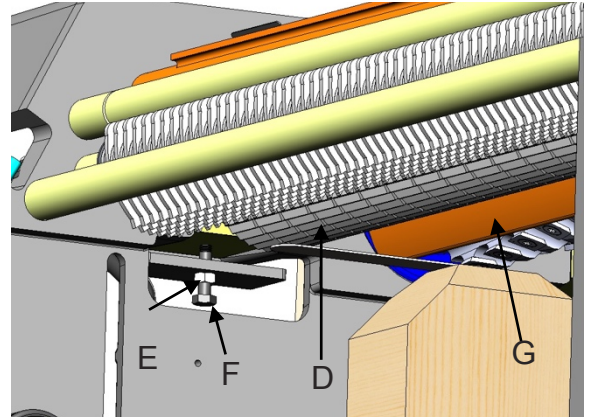

Fig. 18: Roller Adjustment
3. Remove feeler gauge and place wood block under the left side of infeed roller (Fig.18, D). The top of wood gauge should just contact the infeed roller. If it doesn't, loosen jam nut (Fig. 18, E) and turn the adjusting screw (Fig.18, F) to raise, or lower the infeed roller until it contacts wood gauge then tighten the nut (E). Repeat for opposite side of the infeed roller.